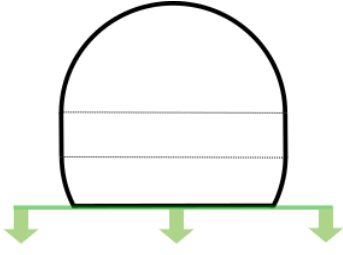

Figure 8 – Folding steps
- T-shirt folded on a planar surface (**[fd]**). The T-shirt is not pre-grasped and is placed folded onto a planar surface. To fold the T-shirt, follow the steps reported in Figure 8.